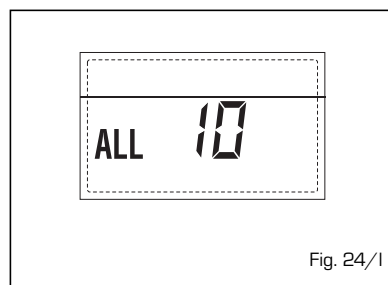

Fig. 24/l
- **ANOMALIA MODULATORE "ALL 11"** (fig. 24/m)